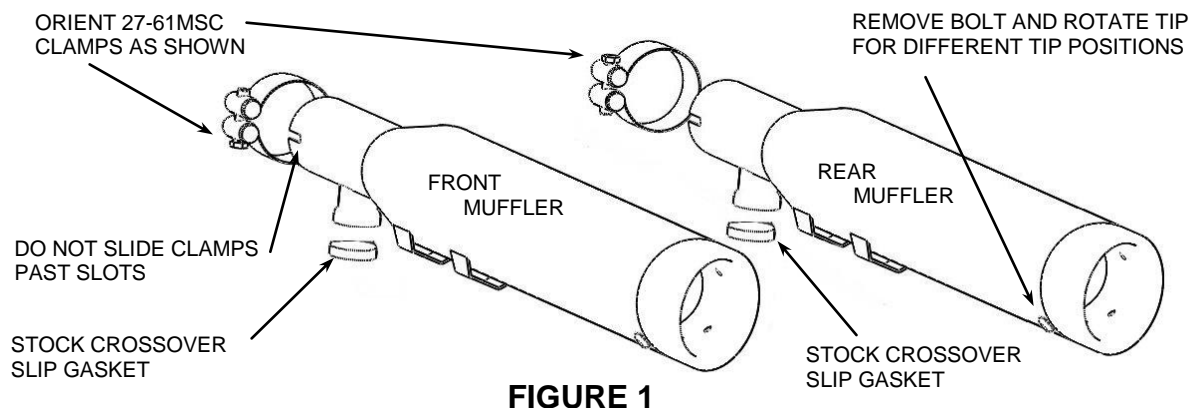

FIGURE 1
6. Slide the supplied 27-61MSC clamps over the slip-on mufflers and position them as shown in Figure 1.